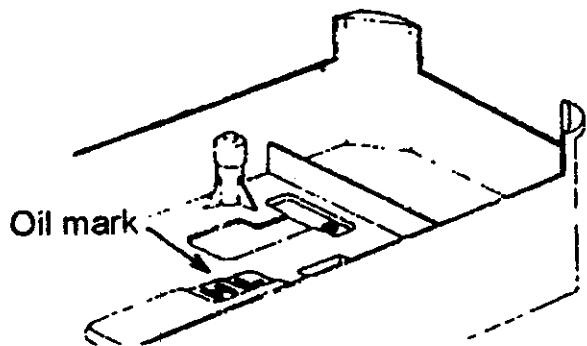
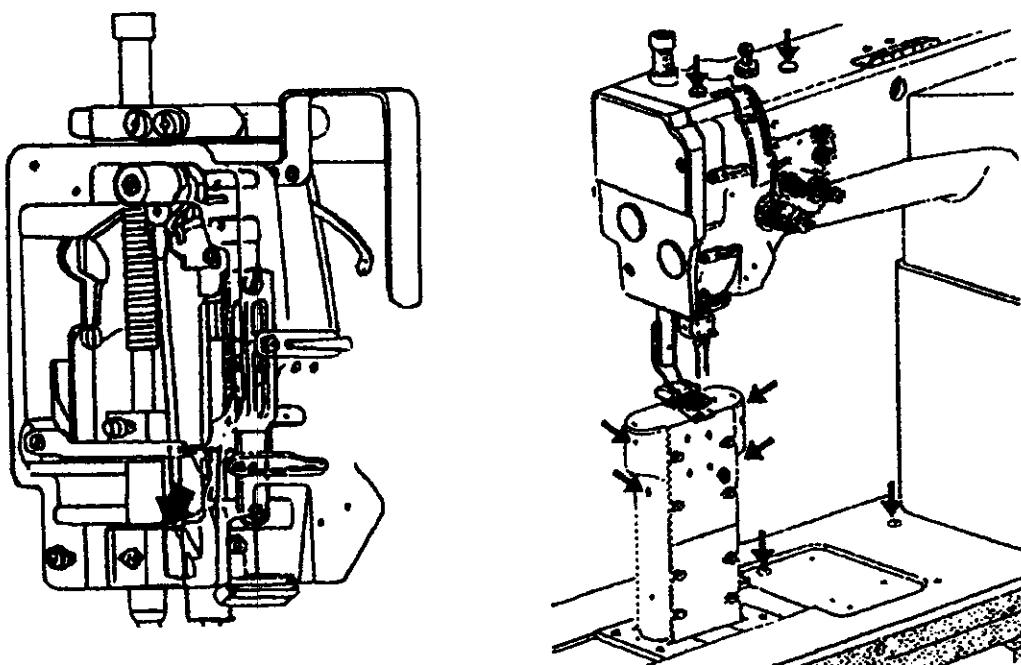
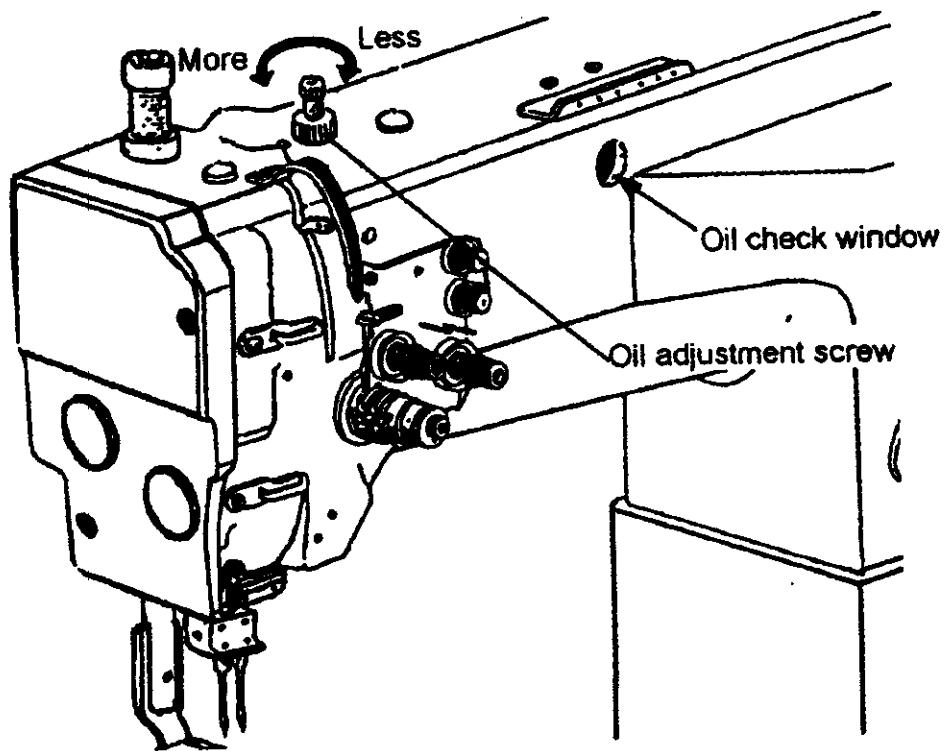

Fig.13
Fig. 14
Fig. 15
17. Lubrication (Fig.13, Fig.14, Fig.15):
- 1) Before starting operation, be sure to pour oil up to the position H of oil tank. If the oil below position L, replenish the oil supply up to position H. (Fig.13)
- 2) When a new sewing machine is first operated, or when a sewing machine which left out of use for a long period of time is operated, it will be necessary to oil through the oil holes after removing the rubber plugs shown below (the direction shown in arrows). (Fig. 14)
3) While operating the machine, check the condition of oil lubrication through the oil check window. The oil amount can be adjusted by oil adjustment screw. (Fig. 15)